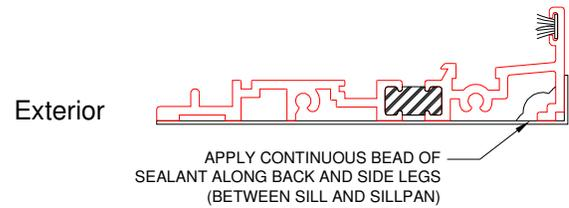

**Figure 13:**
- If sillpan is more than one piece, butt the pieces and glue them to the floor together (Figure 13).